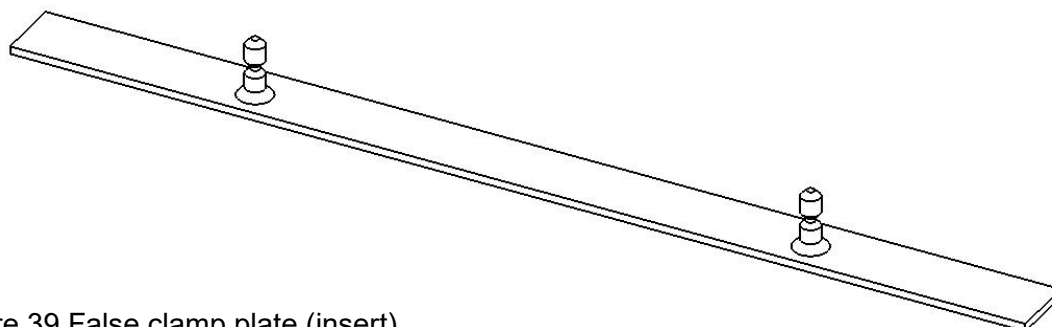
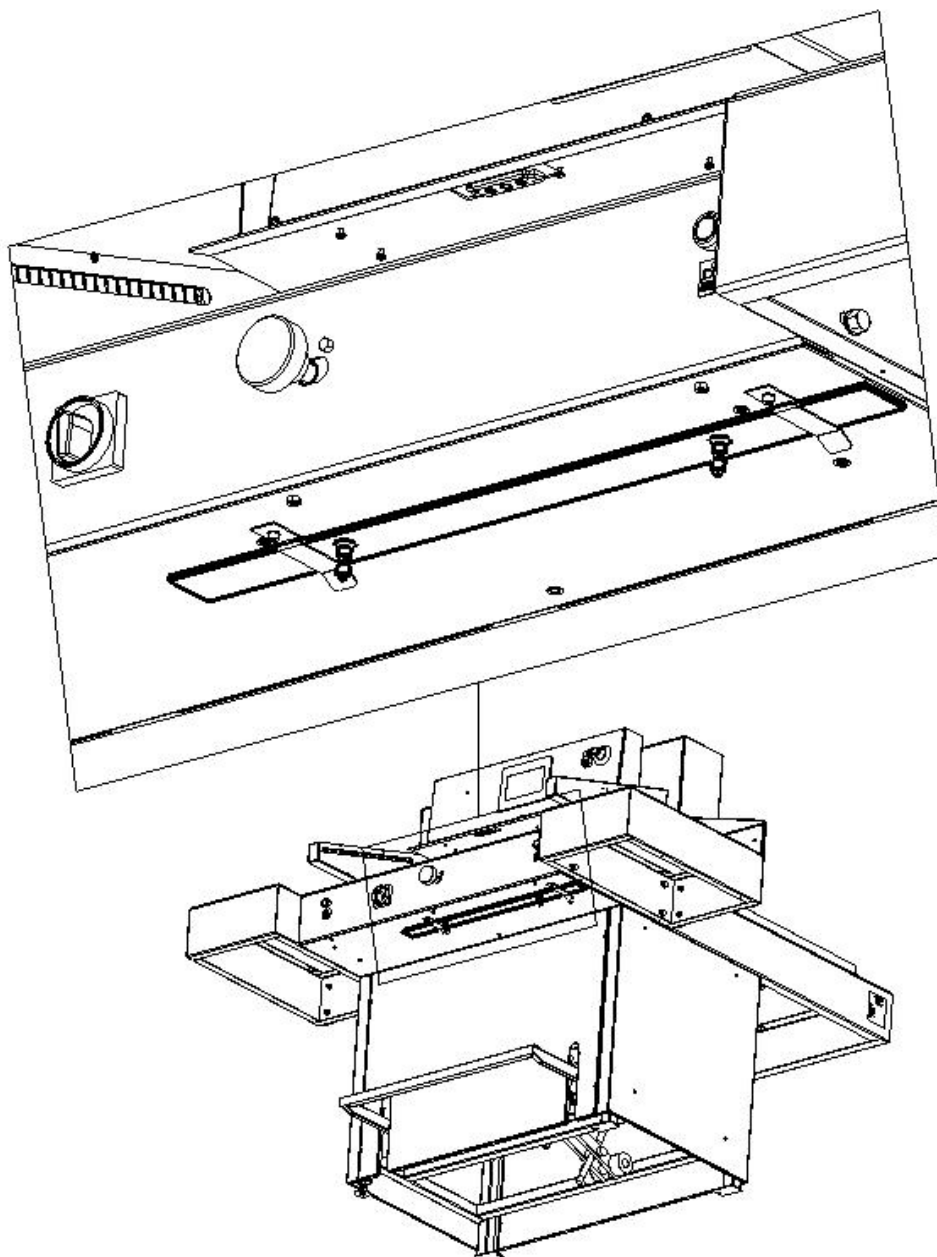

Figure 39 False clamp plate (insert)
Figure 40 Placement of the insert before attachment in the pressure bar
The pressure beam insert (fig. 39) is attached under the front table in the place shown in figure 40.
**The removable insert must be attached under the front table! (Fig. 40)**